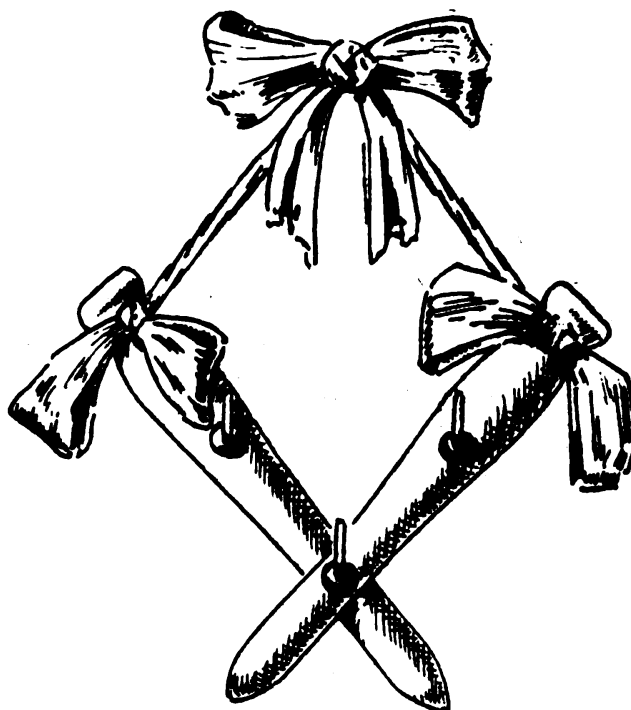

FIG. 43.
*A Key Rack* such as that shown in Fig. 43 is just such an article as a girl would take a delight in making, because of its simplicity and its prettiness.